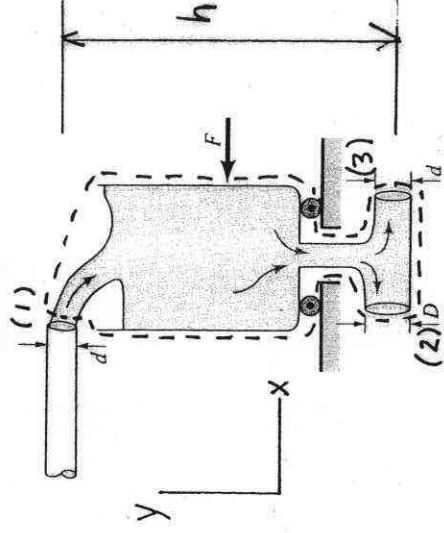

FIGURE P5.31
5.31 Water flows steadily into and out of a tank that sits on frictionless wheels as shown in Fig. P5.31. Determine the diameter  $D$  so that the tank remains motionless if  $F = 0$ .